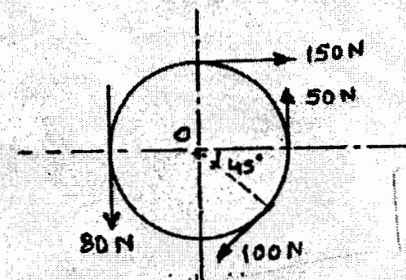

Figure 3(b)
- (b) Determine the resultant of the forces acting tangential to the circle of radius 3m as shown in fig. 3(b). What will be the location w.r.t. the centre of the circle ?